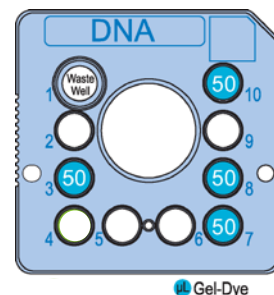
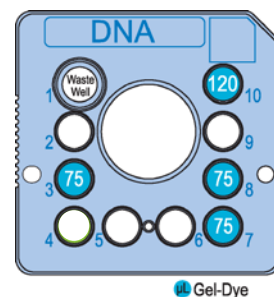

Figure 1. Low-throughput (Up to 48 samples)
Figure 2. High-throughput (Up to 192 samples)
- Use a reverse pipetting technique to add gel-dye to chip wells 3, 7, 8, and 10 as shown in **Figure 1. Low-throughput** or **Figure 2. High-throughput.**